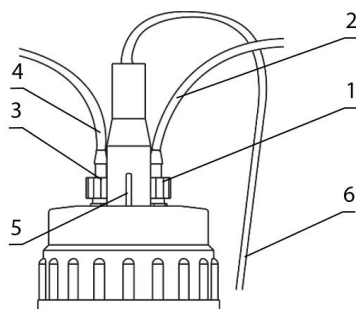
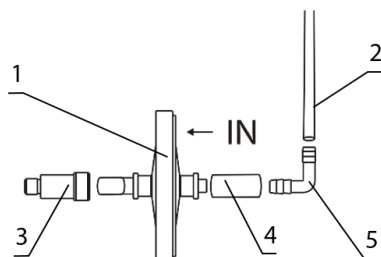
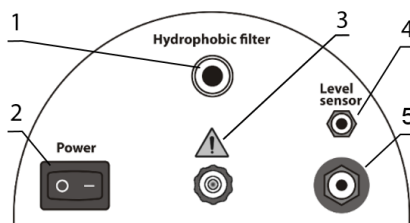

Figure 4. FTA-2i lid with sensor and tubing
Figure 6. FTA-2i filter setup.
Figure 7. FTA-2i rear panel.
1. Lid (see fig. 4).
- Assemble the filter set (figure 6) and connect it to the port on the rear panel of the unit (fig. 7/1).
Caution! Position the filter with the **IN** marking pointing away from the unit (fig. 6/1).
- Attach the fitting (fig. 4/1) of the tubing to the filter (fig. 4/2) to the valve with **white** ring on the lid.
- Ensure that the filter set is tightly fixed in the slot (fig. 7/1).
- Attach the fitting (fig. 4/3) of the tubing for liquids (fig. 4/4 and 5/3) to the valve with the **blue** ring on the lid.
- Connect the sensor cable (fig. 4/5) to the lid of the unit and to the port on the rear panel of the unit (fig. 7/4).
- Connect the external power supply unit into the socket at the rear side of the unit (fig. 7/5) and position the unit for an easy access to the external power supply and the power switch.
8.1 Different aerosols and vapours from volatile and hazardous agents can have a damaging effect on the specific parts of the units. Please see below for **FTA-1** and **FTA-2i** material compatibility tables 1 and 2 with different common laboratory chemicals. It is required to use the **FTA-2i** pump's exhaust (fig. 7/3) by connecting it to the means of required filtration through a tube or, alternatively, by placing the unit in a fume hood when working with volatile and hazardous agents. **FTA-1** does not have pump exhaust connector available; therefore, it is obligatory to place the unit in a fume hood. It is suggested to test the compatibility of related parts to a specific chemical prior to extensive use. Biosan does not warrant that the data in the tables is correct or comprehensive and that any material is fit for any purpose.